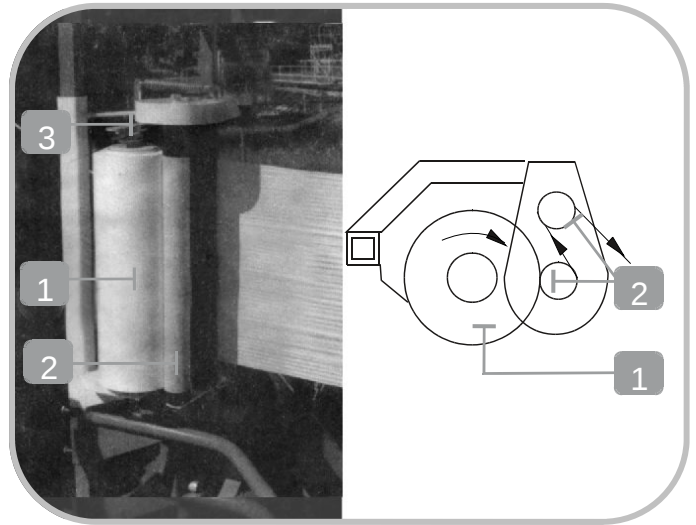

Fig. 11 Film Installation in the Dispenser.
The subsequent layers of film are wrapped around the bale as a result of the aforementioned motions. The film dispenser (4) consists of a frame and a support bracket with rubber rollers (16) coupled with each other by means of a spur gear. A roll of wrapping film (17) is installed on the bolt in the dispenser frame in accordance with the diagram (see Fig. 11). The appropriately selected position between the rubber rollers and close adhesion of the film (17) to the rollers (16) ensures stretching and good and accurate adhesion to the subsequent film layers. The degree of film lengthening can be adjusted by turning the film roll pressure nut (see Fig. 11, item 3). The lower frame (2) with the rotating frame (3) is secured against tilting by the locking pin (18), which is situated on the main frame (1). When the locking pin (18) is moved forward by the lever system after pulling the line (19) from the tractor cab results in unlocking the lower frame (2), together with the rotating frame (3). After lifting the wrap
After tilting the support bracket with rubber roller, a roll with special bale-wrapping self-adhesive film is installed onto the feeder bolt. After installation, the roll must be secured with the handle from the top and pressed (Fig. 11). The ends of the film must be pulled through both rolls towards the bale being wrapped. After the film is installed, the rubber roll should adhere accurately and evenly to the film roll along the entire length. In the case of inaccuracies - the film should be adjusted by bending the rod, on which the film is installed.